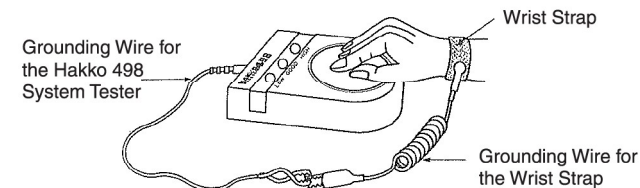

fig. 1
5. 手でパッドを押します。(図1)
5. Press the test pad on the front of the unit (fig. 1). An LED lamp and an audible signal will be heard.